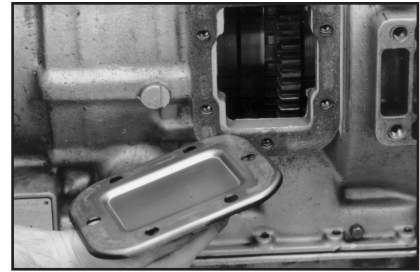
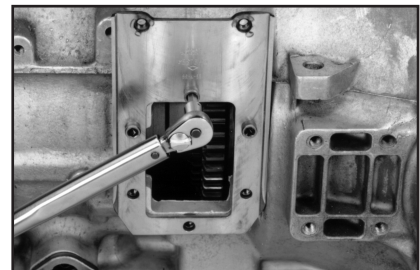

Figure 13
Figure 15
1. Remove the 6-Bolt cover and gasket from the 6-Bolt aperture. Clean the 6-Bolt aperture as in step 2 on page 10 (**Fig. 13**).
3. Next, fasten the special mounting plate onto the opening with the three (3) socket head bolts. The three socket head bolts always go in the three holes closest to the two (2) welded-on nuts. Figure 13 shows the plate position for a PTO with a 5 assembly arrangement. Torque the three socket head bolts to 25-30 lb-ft [34-41 N-m]. **DO NOT** exceed 30 lb-ft (**Fig. 15**).
NOTE: The low-profile adapter plate will typically only fit upward due to transmission interference (as shown in **Fig. 15**).